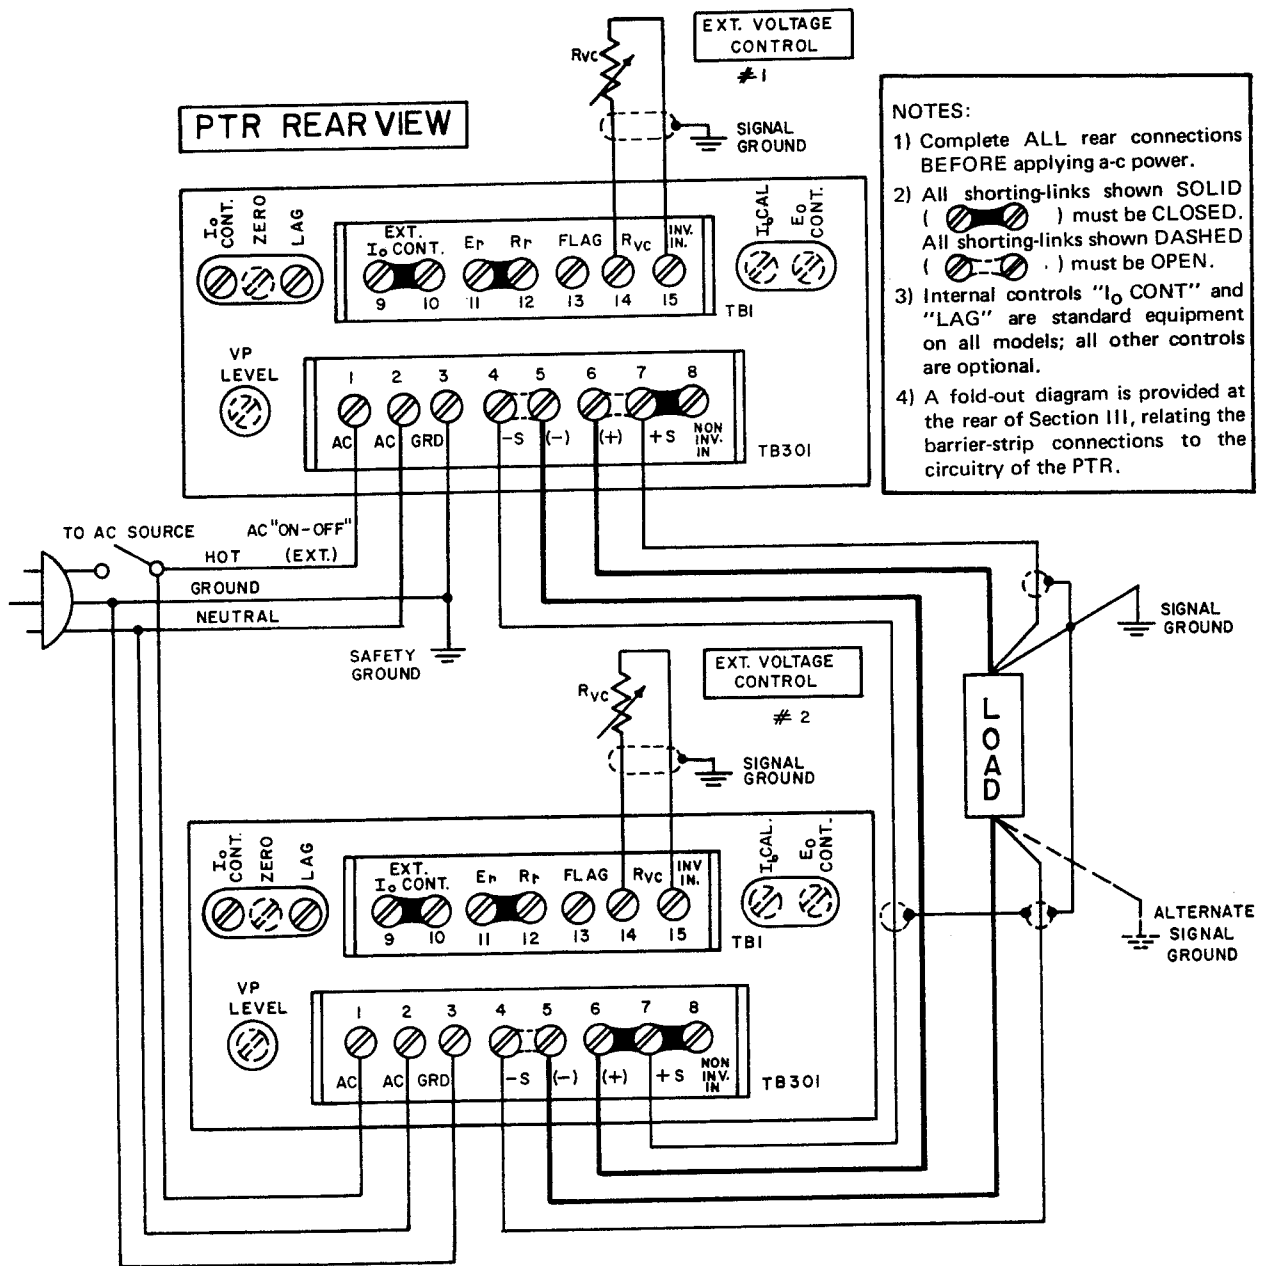
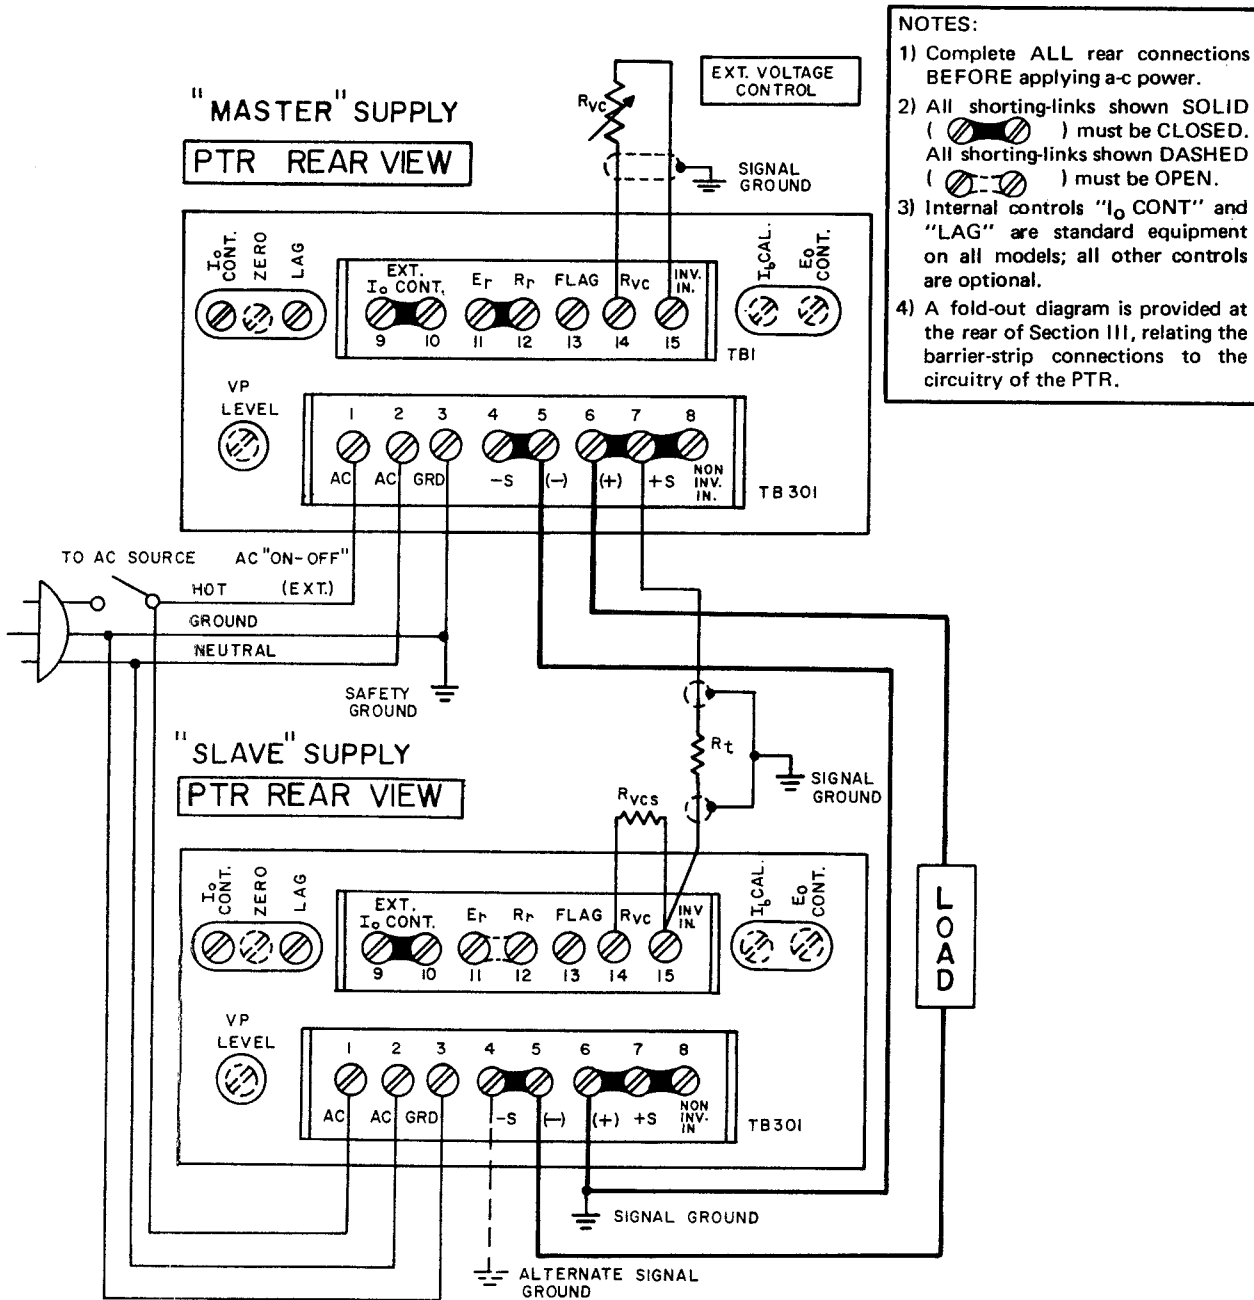

FIG. 3-20 "AUTOMATIC" SERIES CONNECTION.
FIG. 3-21 "MASTER/SLAVE" SERIES CONNECTION.
3-86 GENERAL. Kepco Power Supplies can be series connected for increased voltage output, provided the specified limits for "Isolation Voltage" are not exceeded. Two basic series-connection methods are generally used, the "Automatic" series connection, as illustrated in FIG. 3-20 and the "Master/Slave" connection, shown in FIG. 3-21. The basic difference between these two alternate methods lies in the manner of the output control. While in the "Automatic" connection, the outputs of both supplies may be controlled *individually*. In the "Master/Slave" connection, control is exercised from the "master" supply *alone*, while the "slave" supply follows the master command in a ratio which may be predetermined by the user. The latter method of series operation is therefore frequently termed "Automatic Tracking."
- Connect load as shown in FIG. 3-20. Keep voltage drop in load wires as low as practical by using heavy gauge wire.
3-88 The "Master/Slave" series connection method is illustrated in FIG. 3-21. As seen from the figure, the reference voltage ( $E_r$ ) of the "slave" supply is disconnected and its input or null junction is connected to the output of the "master" supply via the tracking resistor ( $R_t$ ). The "slave" supply output is thus completely dependent on the "master" output voltage:
- a) Connect load as shown in FIG. 3-21. Keep voltage drop in the load wires as low as possible by using heavy gauge wire.
- b) Remove jumper links as shown (FIG. 3-20) and connect error-sensing leads if remote sensing is desired. Sensing leads should be twisted and shielded.
- c) Select value of the tracking resistor ( $R_t$ ) and connect with shielded wire as shown (FIG. 3-21).